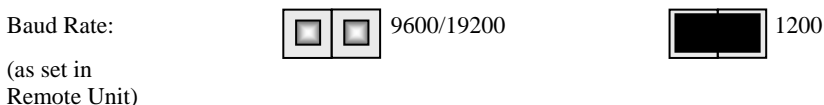

Figure 20 Baud Rate Jumper Settings in Local Unit (see Figure 18 for location of jumper block)
3. If the extender system has been operating at 1200, locate the Baud Rate jumper block in the Local Unit and remove the jumper as shown in Figure 20.
2. Place the jumper over the posts as shown in Figure 20.